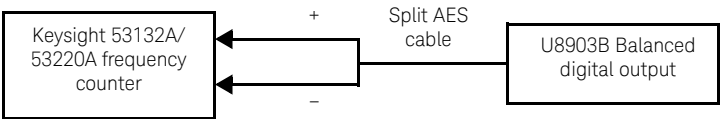

Figure 4-3 Keysight 53132A/53220A to U8903B balanced digital output for balanced input sampling rate accuracy verification
- 1 Connect the Keysight 53132A/53220A frequency counter input channel 1 and 2 to the U8903B Balanced digital output channel using the XLR female to two BNC male split AES cable with separated + and – output lines as shown in **Figure 4-3**.